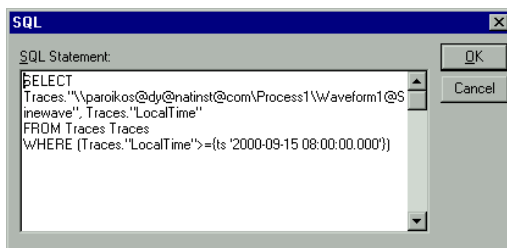

Figure 5. SQL Statement
- Build your query in Microsoft Query. Figure 5 shows a query created in Microsoft Query.